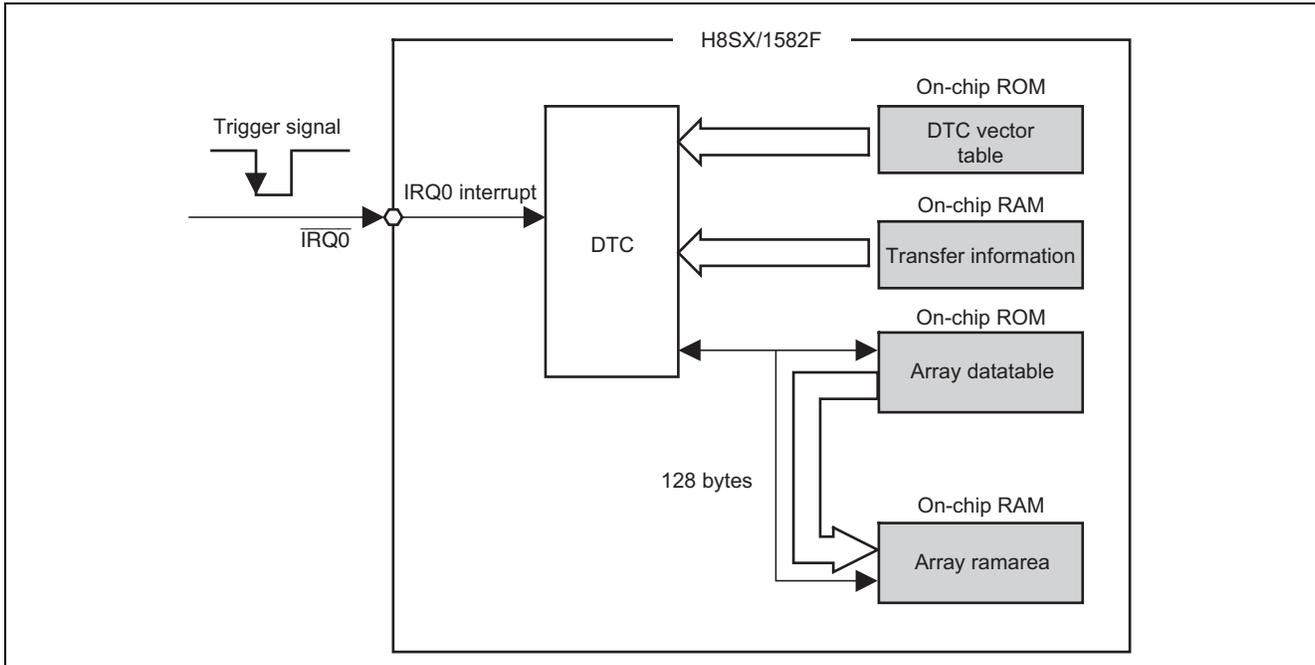

Figure 1 Block Diagram of DTC Data Transfer
- Figure 1 shows a block diagram of data transfer by the DTC.